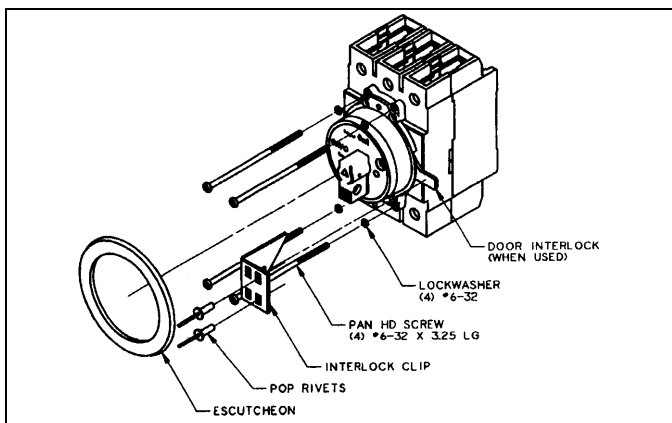

Fig. 1.1 Standard G-Frame Rotary Handle^①
5. Attach the interlock clip to the enclosure door by drilling 2.166 dia holes to the enclosure door and attaching the pop rivets. Refer to Fig. 1.1 and 1.2 for proper orientation and Fig. 3.1 for mounting hole dimensions.